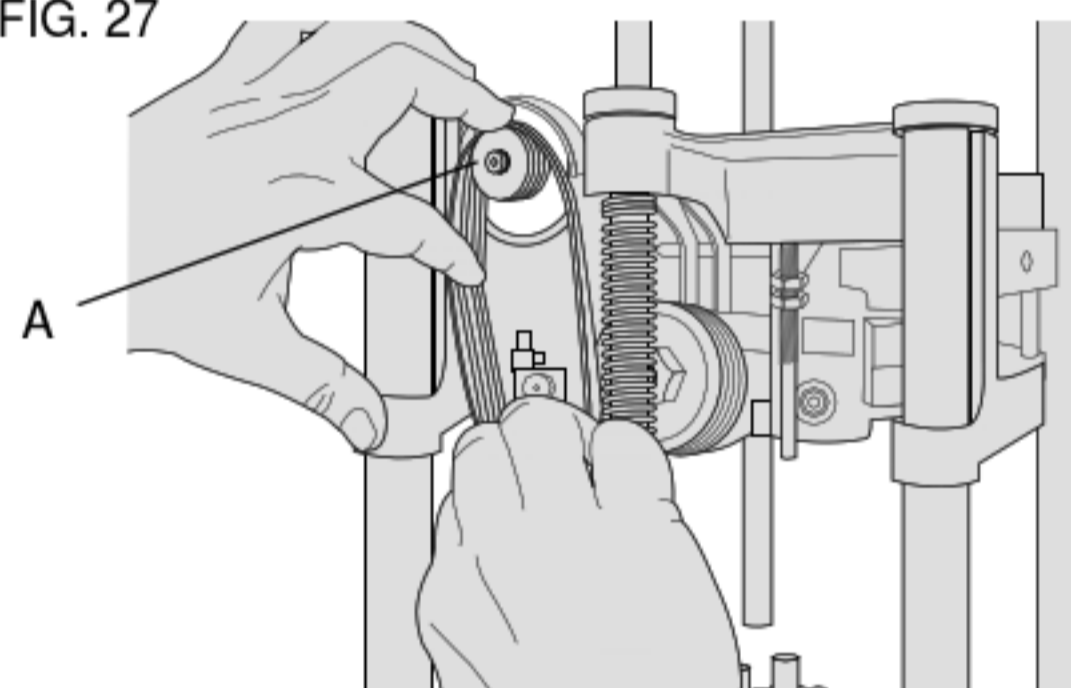

FIG. 28
6. **Figure 28** - Guide the belt between the lower pulley and the height adjustment screw (B).